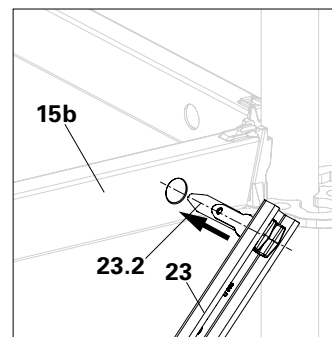

Fig. A4.07d
4. Insert the tilt finger into the hole of the upper ledger (**15b**). (Fig. A4.07d)